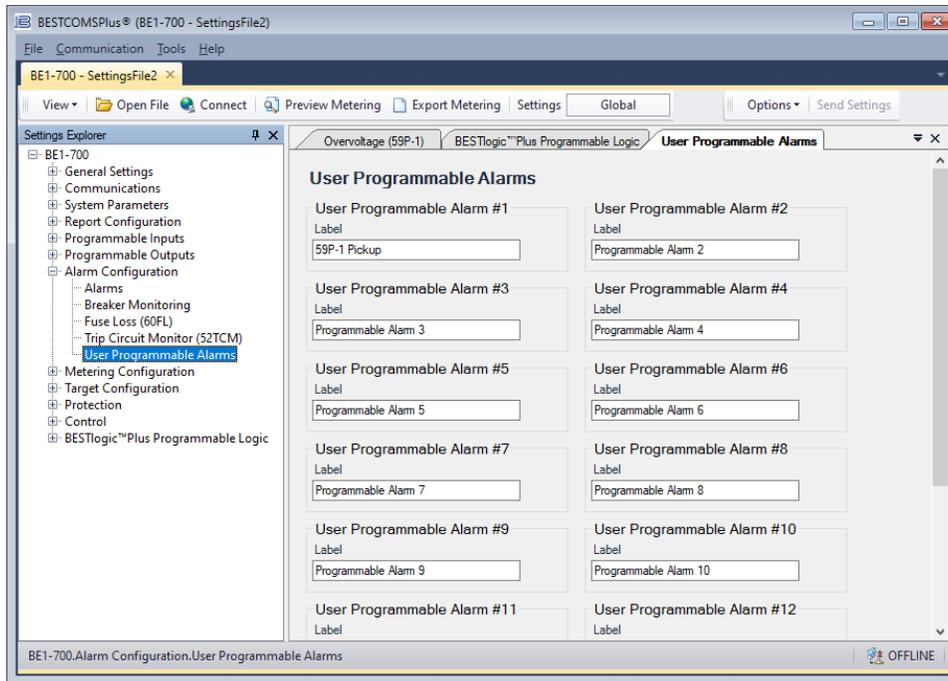

Figure 2-16. User Programmable Alarms Screen
Step 14: In the Settings Explorer, expand Alarm Configuration, User Programmable Alarms, and name User Programmable Alarm #1 (59P-1 Pickup) as shown in Figure 2-16.